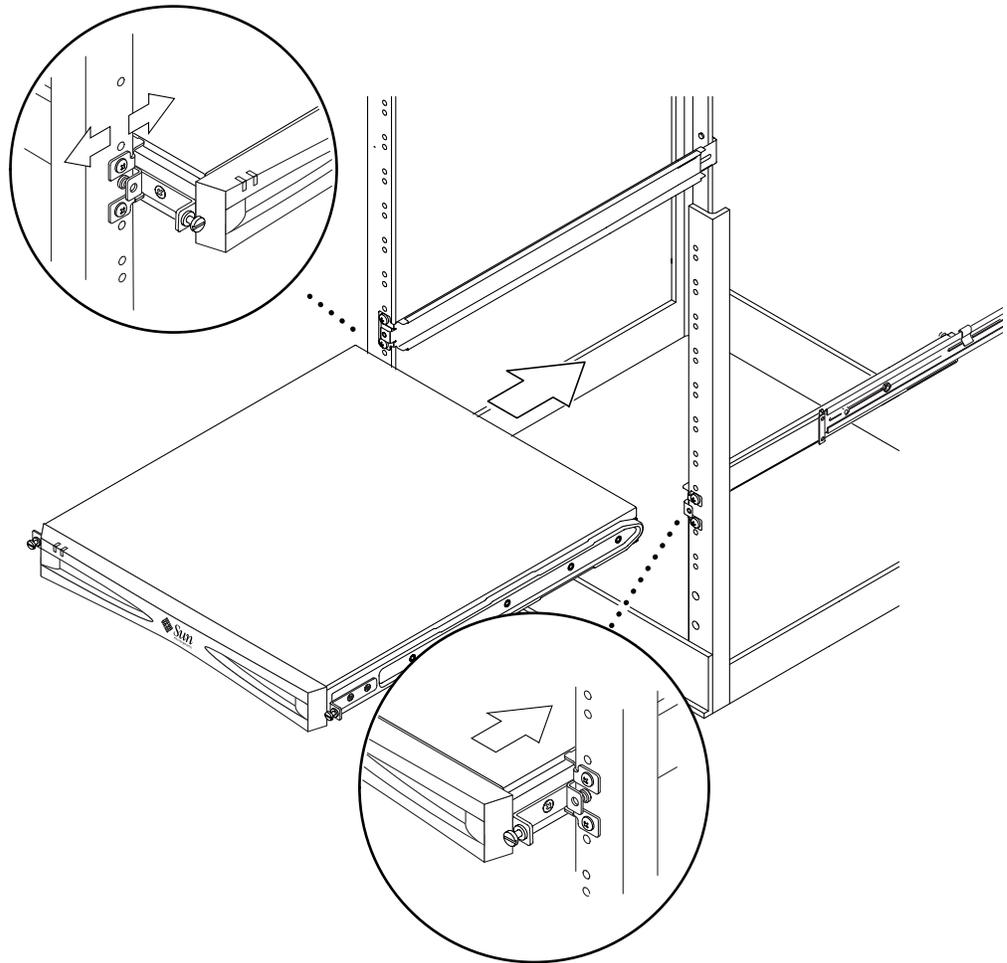

FIGURE 2-11 Sliding the Netra E1 PCI System Expander Into a Standard 19-inch Rack
9. Slide the Netra E1 PCI system expander into the rack (FIGURE 2-11).